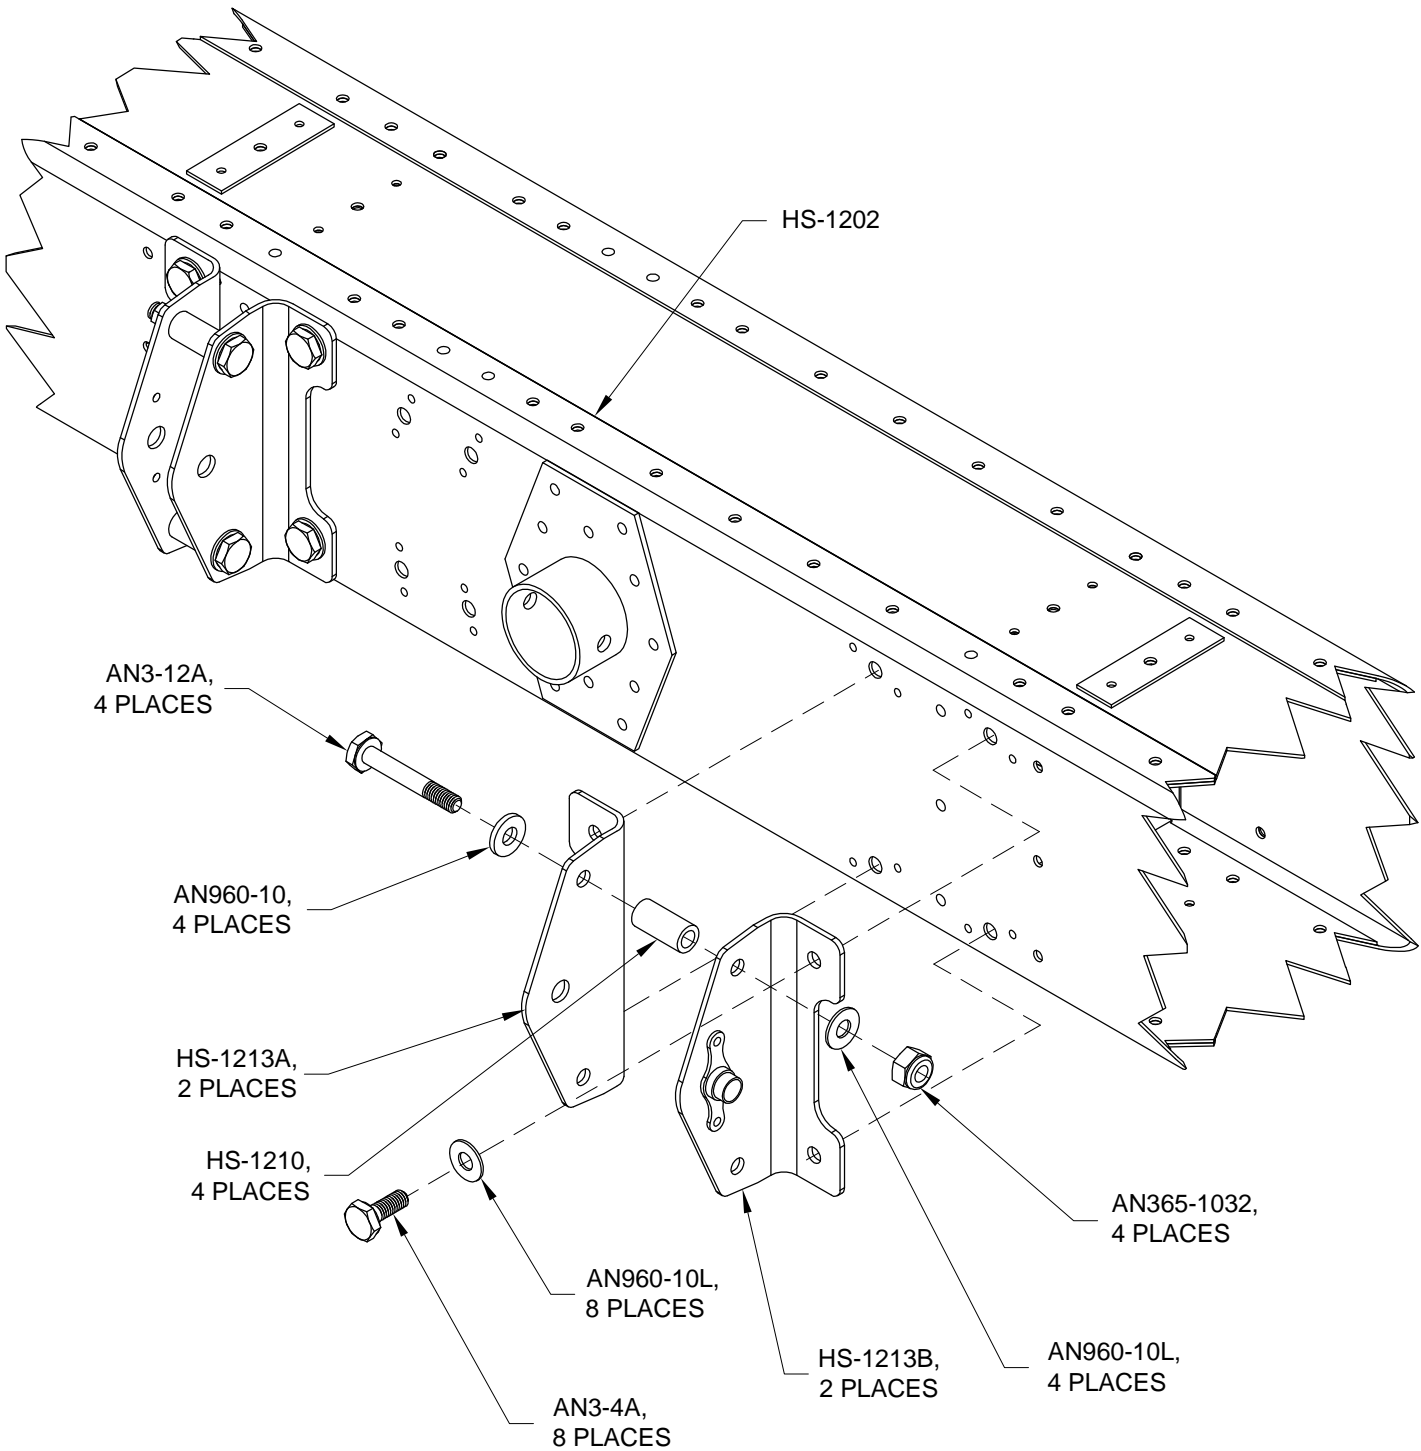

FIGURE 1:
Step 1: Install the HS-1213A Inbd and HS-1213B Outbd Hinge Brackets to the HS-1202 Fwd Spar using the hardware called out in Figure 1.
Step 2: Install the HS-1210 Bushings between the HS-1213A Inbd and HS-1213B Outbd Hinge Brackets using the hardware called out in Figure 1. When installing each bushing or tightening the bolt the inbd and outbd hinge brackets should not yield to the bushings. Trim or replace bushings as necessary to maintain the spacing and angle of the inbd and outbd hinge brackets.
NOTE: Ribs attached to the Spar Box Assembly not shown in Figure 1.